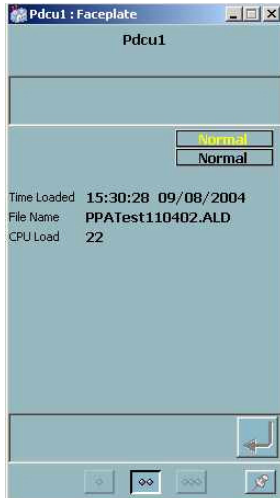

Figure 198. DCU Module
**Distributed Control Unit (DCU).** The Distributed Control Unit module faceplate provides status information about the DCU. The DCU module reports the time it was last downloaded with a database, the name of the database last downloaded, the current percent CPU load utilization, and alarm status used for display in the faceplate. Figure 198 shows the layout of the DCU normal sized faceplate and its attributes.